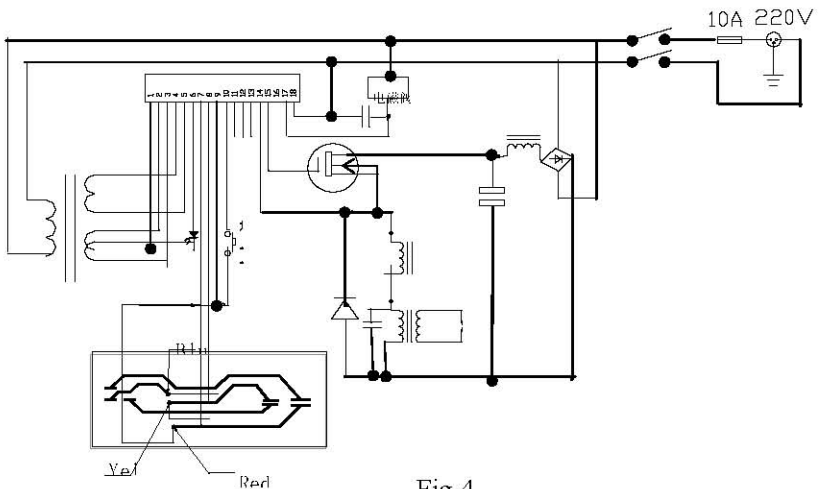

Fig.4
- 6、 Wiring diagram for welding switch (Fig.4)